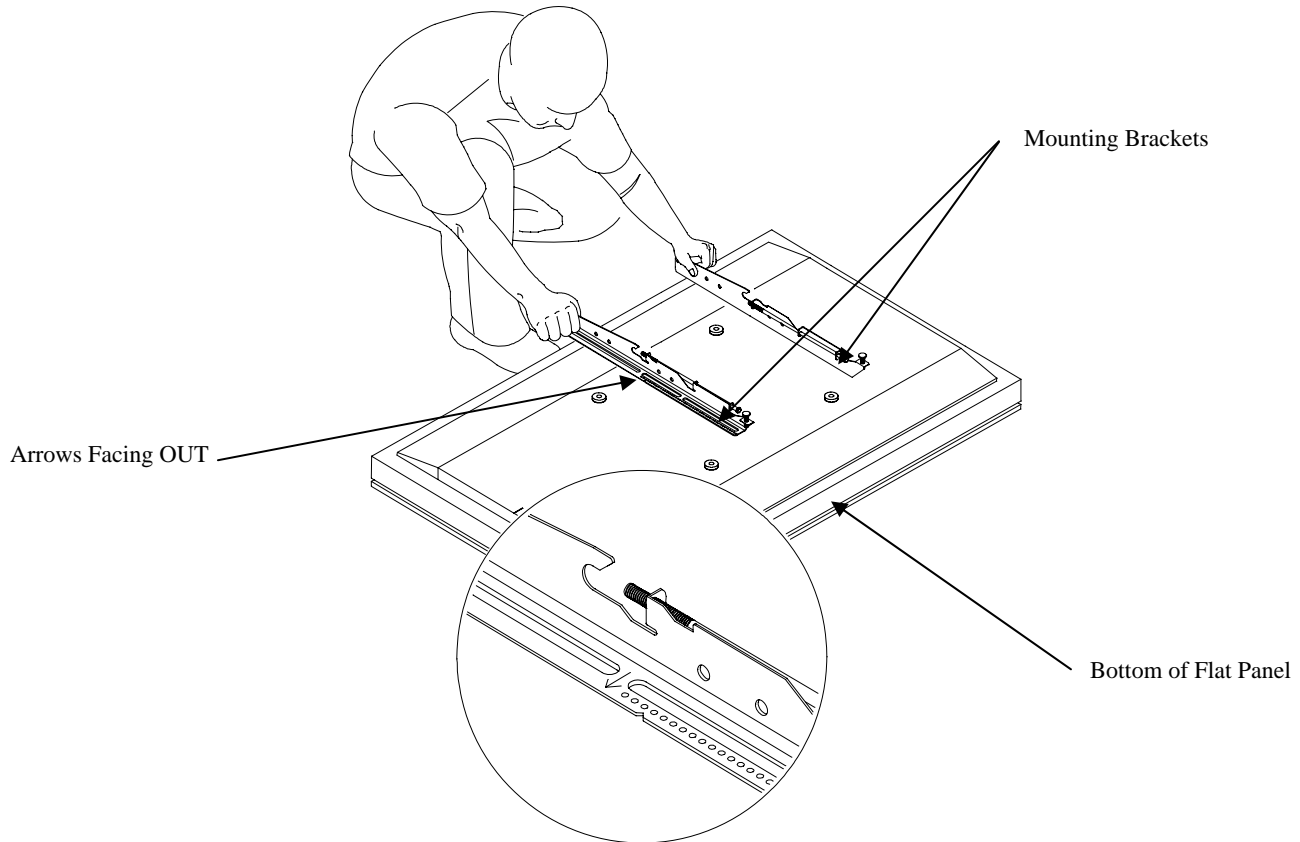

Figure 3. Mounting Bracket Installation
1. Lay the left and right mounting brackets (stamped arrows facing out) (Figure 3).